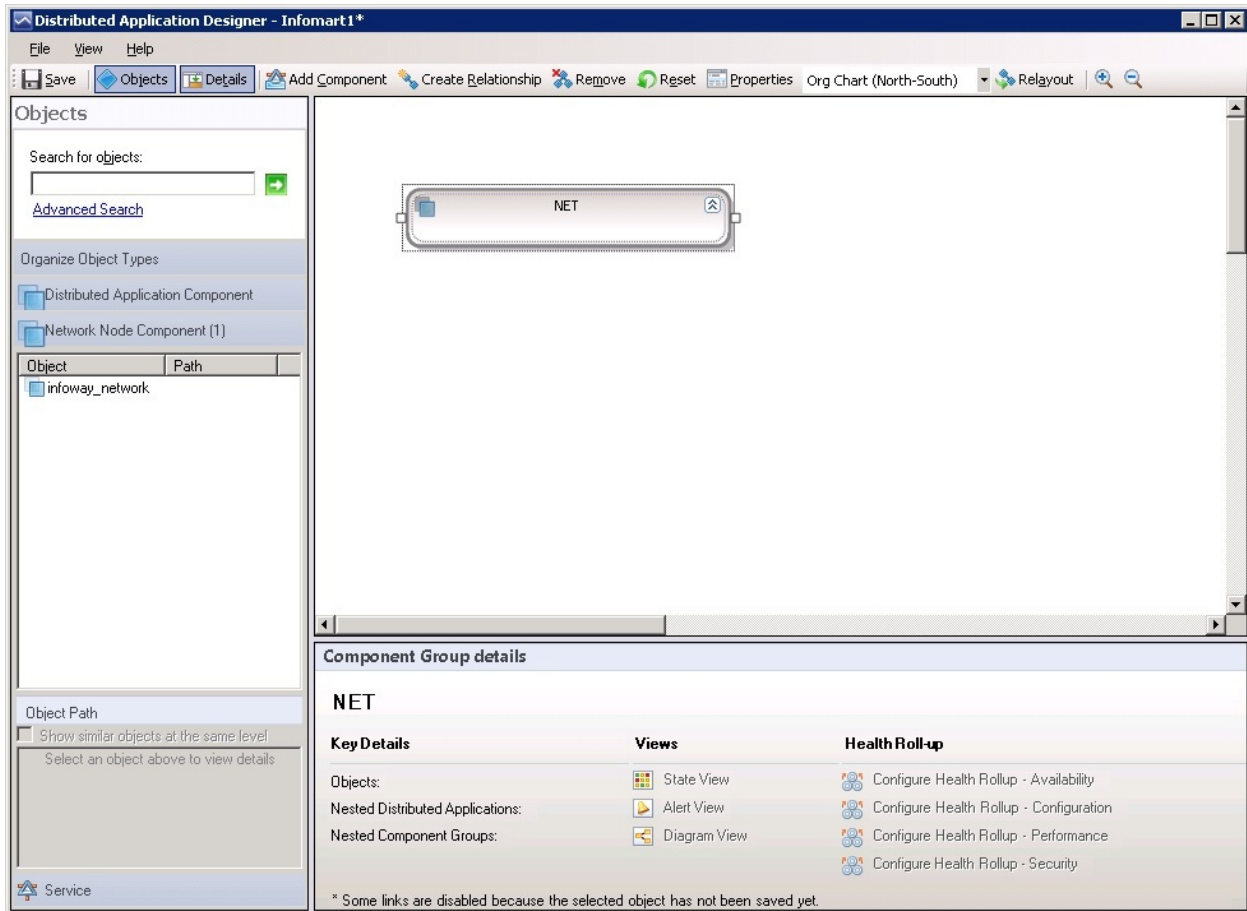
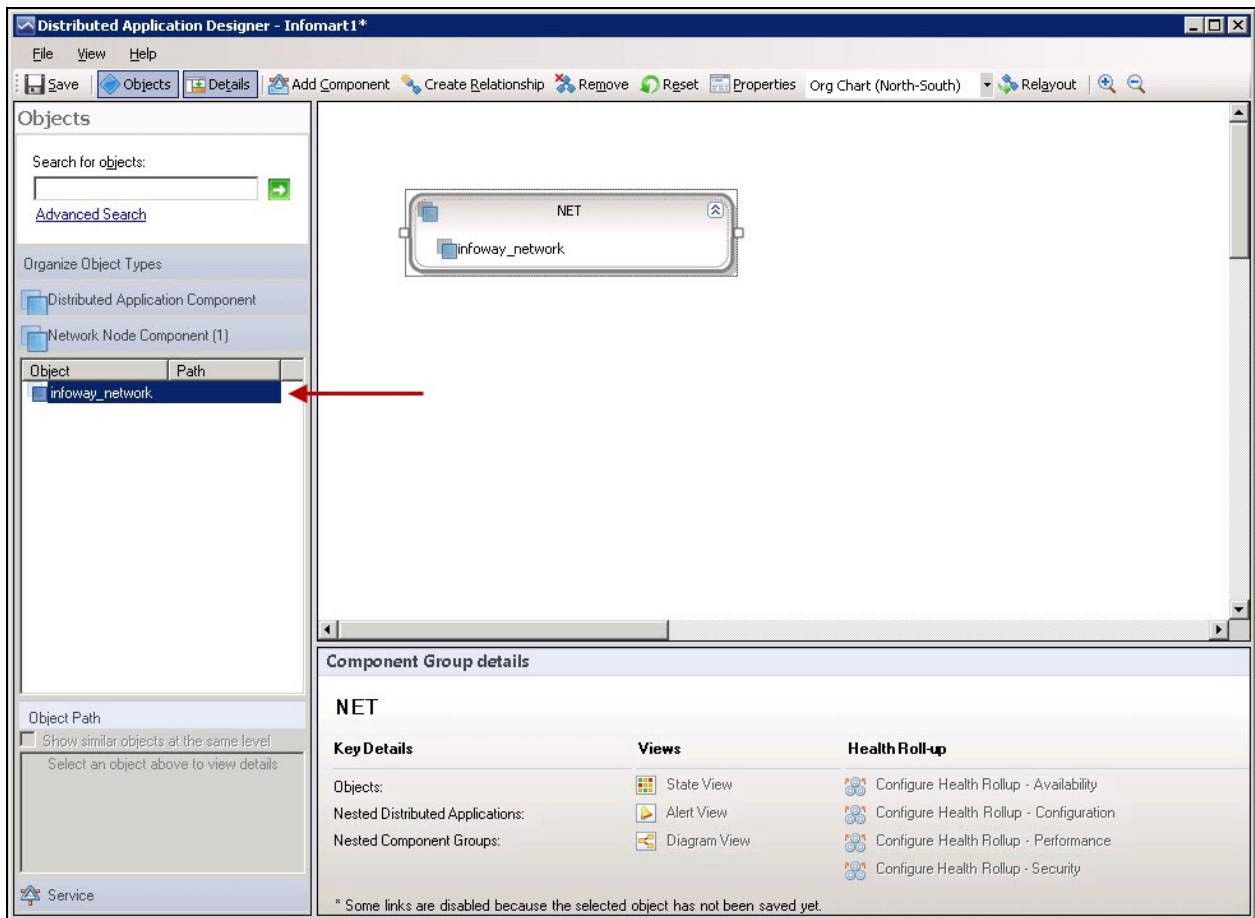
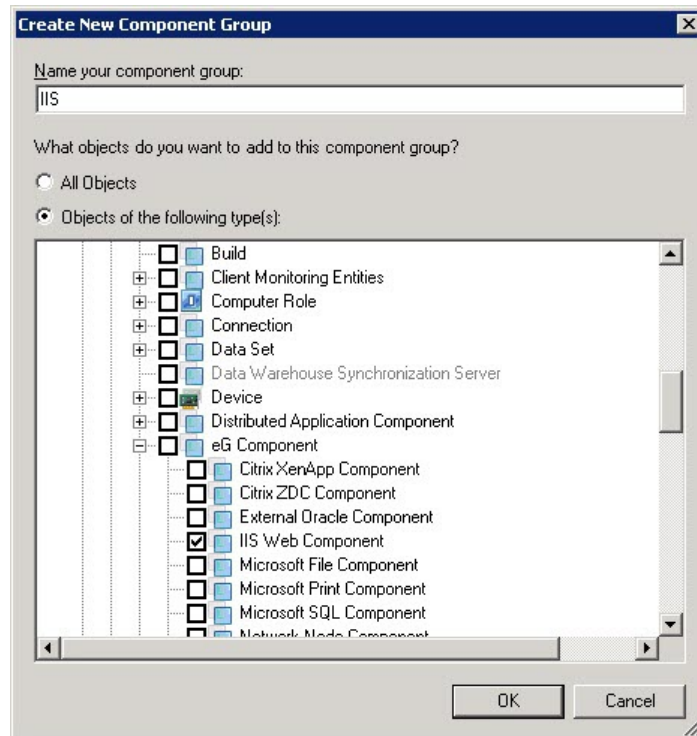

Figure 4.31: The newly added Network Node Component group appearing in the Designer window
Figure 4.32: Adding the *infoway_network* component to the NET component group you created
Figure 4.33: Creating an IIS Web Component group
7. This will invoke Figure 4.31. In the **Distributed Application Designer** window of Figure 4.31, you will find a 'box' representing the new **NET** component group that you just added.
8. Next, click on the **Network Node Component** section in the left panel of Figure 4.31 (as indicated), to view all the eG-managed network nodes. From the list that appears beneath, select the *infoway_network* component, drag it, and drop it into the **NET** box in the right panel (see Figure 4.32).
9. With that, the **Network Node Component** group has been created, and the *infoway_network* component has been added to it. The next step is to create the IIS web server component and configure a relationship between the network node and the web server. For this, click on the **Add Component** button in Figure 4.32 again. When the **Create New Component Group** dialog box of Figure 4.33 appears, name the new component group as **IIS**, select the **Object of the following type(s)** option, scroll down the object type list, expand the **eG Component** node, and select the **IIS Web Component** group.